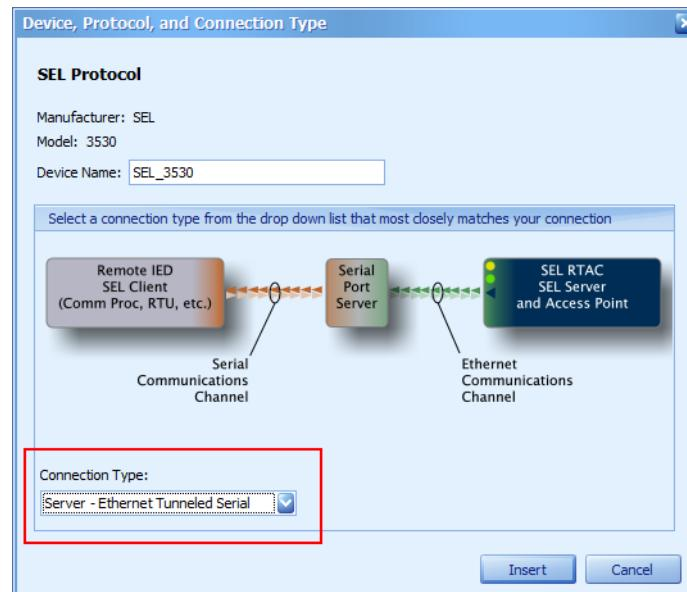

Figure 153 Connection Type for RTAC
Step 3. In the window that appears, select **Server - Ethernet Tunneled Serial** as the **Connection Type**, as shown in *Figure 153*. Select **Insert**.